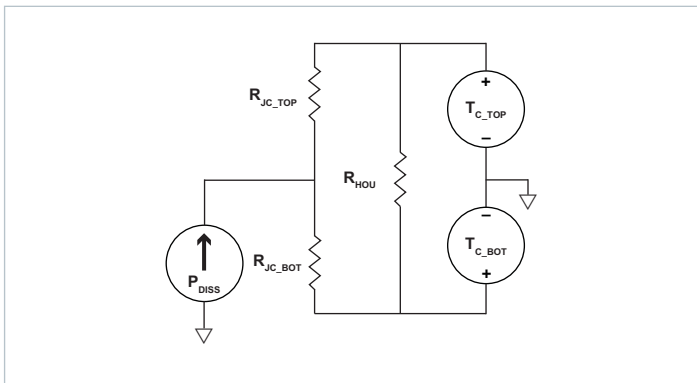
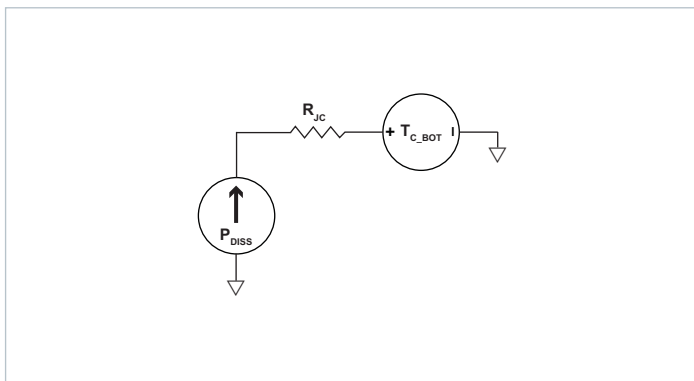

Figure 19 – Double sided cooling VIA thermal model
Figure 20 – Single-sided cooling VIA thermal model
The VIA™ package provides effective conduction cooling from either of the two module surfaces. Heat may be removed from the top surface, the bottom surface or both. The extent to which these two surfaces are cooled is a key component for determining the maximum power that can be processed by a VIA, as can be seen from specified thermal operating area in Figure 1. Since the VIA has a maximum internal temperature rating, it is necessary to estimate this internal temperature based on a system-level thermal solution. To this purpose, it is helpful to simplify the thermal solution into a roughly equivalent circuit where power dissipation is modeled as a current source, isothermal surface temperatures are represented as voltage sources and the thermal resistances are represented as resistors. Figure 19 shows the “thermal circuit” for the VIA module.
- Single side cooling: the model of Figure 19 can be simplified by calculating the parallel resistor network and using one simple thermal resistance number and the internal power dissipation curves; an example for bottom side cooling only is shown in Figure 20.